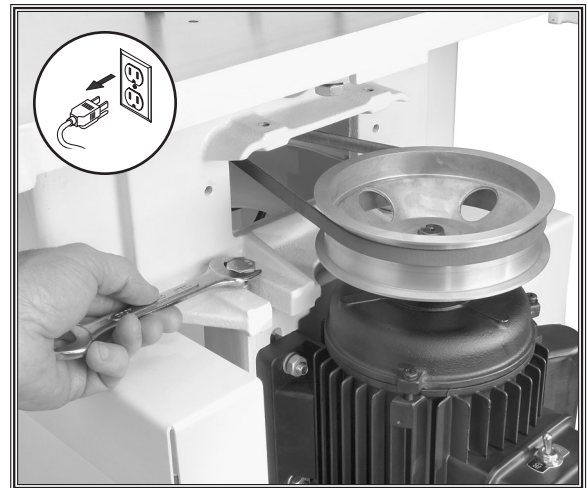

Figure 37. Adjusting belt tension.
2. Loosen the belt adjustment bolts as shown in **Figure 37**.